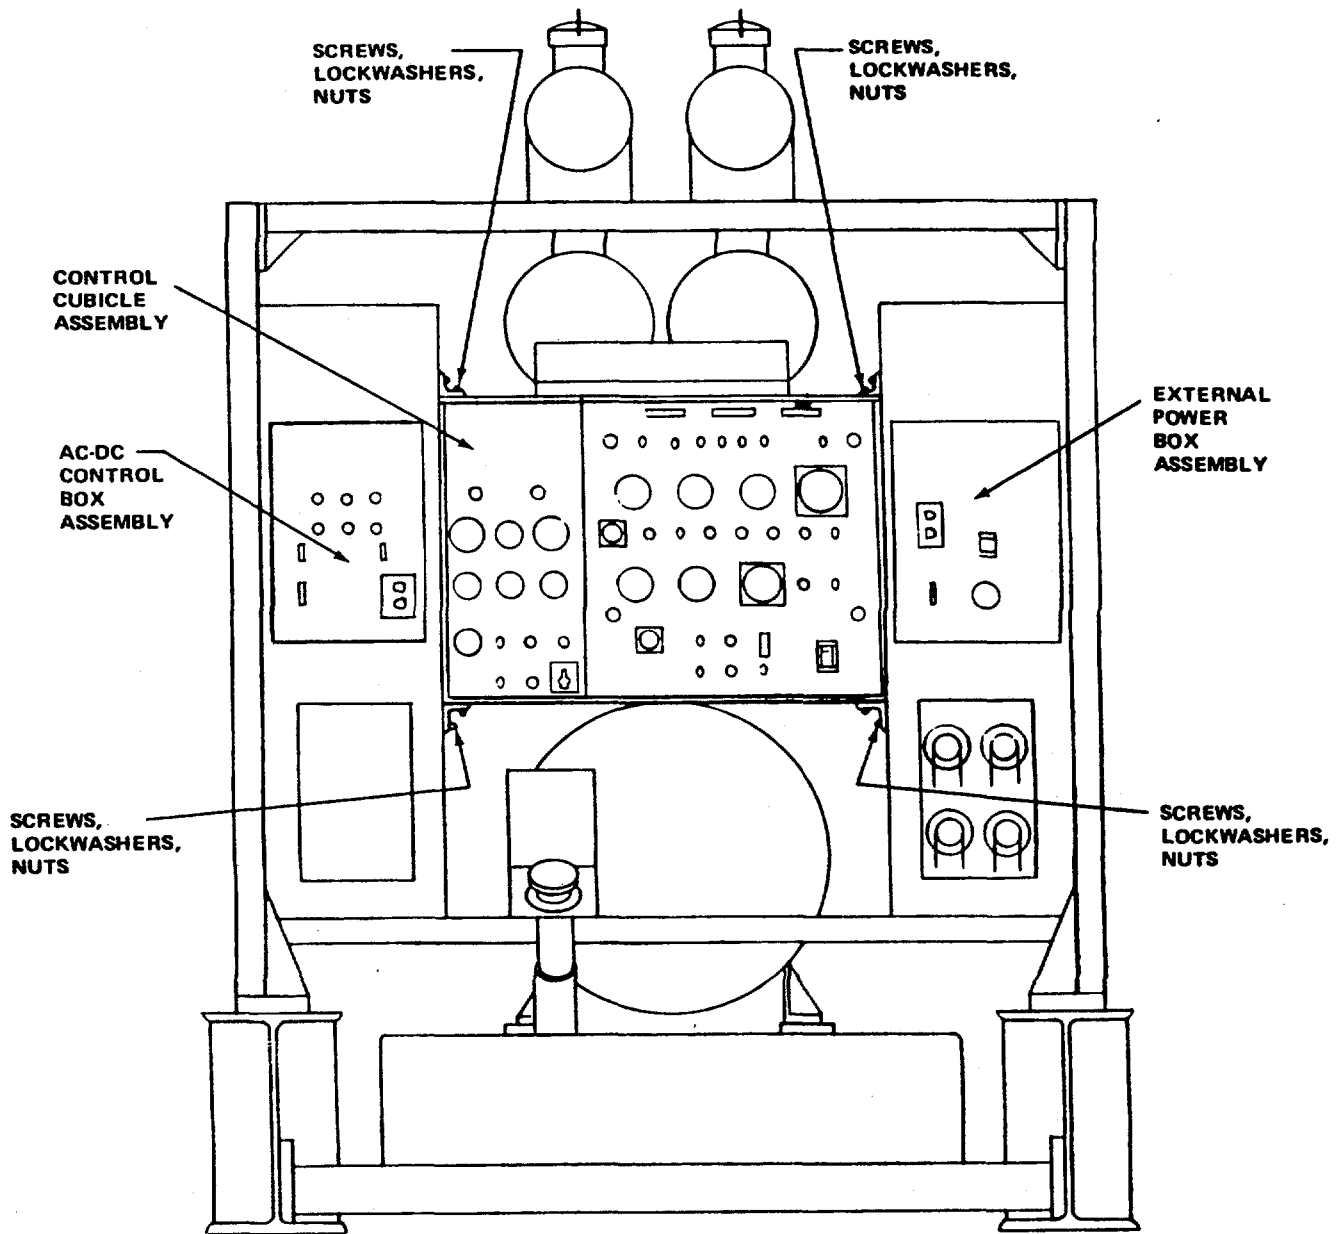

Figure 2-1. Location of Major Components
**2-13. CONTROL CUBICLE.** The control cubicle, figure 2-1, is mounted on four brackets attached on one side to the AC-DC control box assembly, and on the other side, to the external power box assembly.
- (1) If generator set has a housing, remove left and right access doors in accordance with Chapter 15.
- (2) Disconnect electric connectors J1 through J6 at rear of control cubicle.
- (3) Remove screws, nuts, and lockwashers, between brackets and control cubicle. Do not remove bottom brackets from AC-DC control box assembly and external power box assembly.
- (4) Using a hoist, remove control cubicle by sliding out over bottom brackets.